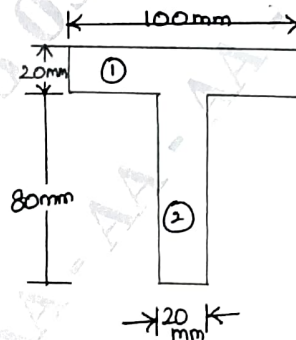

Fig Q10(c)
- c. A cast iron beam is of T-section as shown in Fig Q10(c). The beam is simply supported on a span of 8 m . The beam carries a uniformly distributed load of 1.5 kN/m length on the entire span. Determine the maximum tensile and maximum compressive stresses.